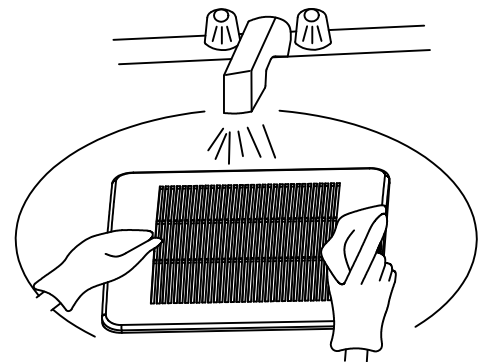

Fig. 7
2. Wash and clean the grille in a sink and dry with a cloth (Fig. 7)